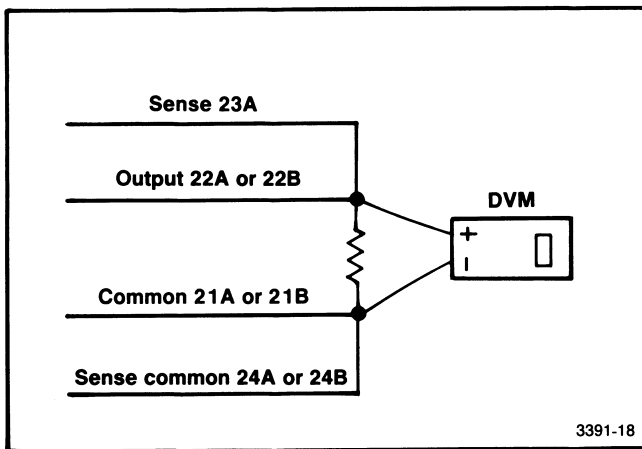

Fig. 5-5. Connections for rear interface logic supply load effect check Dvm must be connected to same point as sense lines.
- j. To verify the rear interface output load effect see Fig. 5-5.